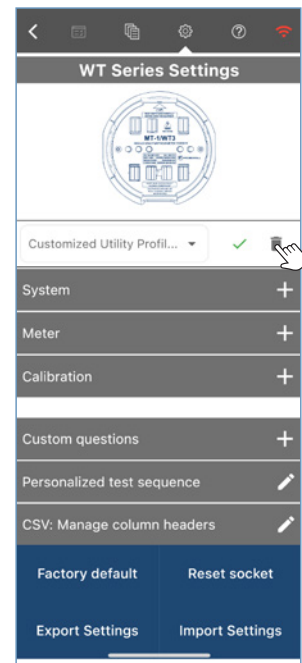

Figure 4
- A preview of the PDF Report is available for review by tapping the PDF icon . (Figure 4)
- Delete a profile:** To delete a profile, select the name of the profile from the drop-down menu and tap the garbage can 🗑️ to delete it (Figure 4).